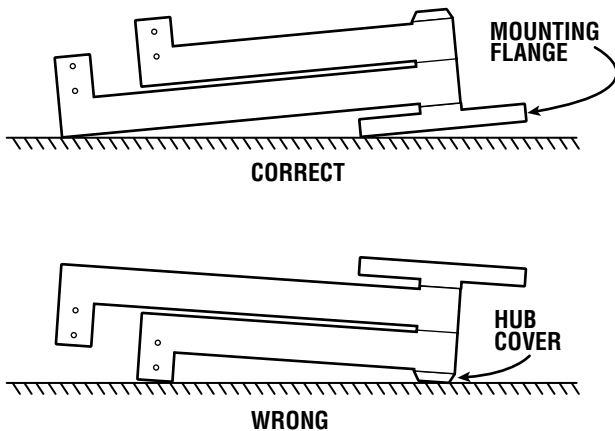

Figure 1. Radial Arm Assembly
- When the radial arm assembly is removed from the crate and set on the floor prior to mounting it, be sure the mounting flange is toward the floor. If the arm assembly is set on the floor upside down the hub cover may be damaged. See figure 1.